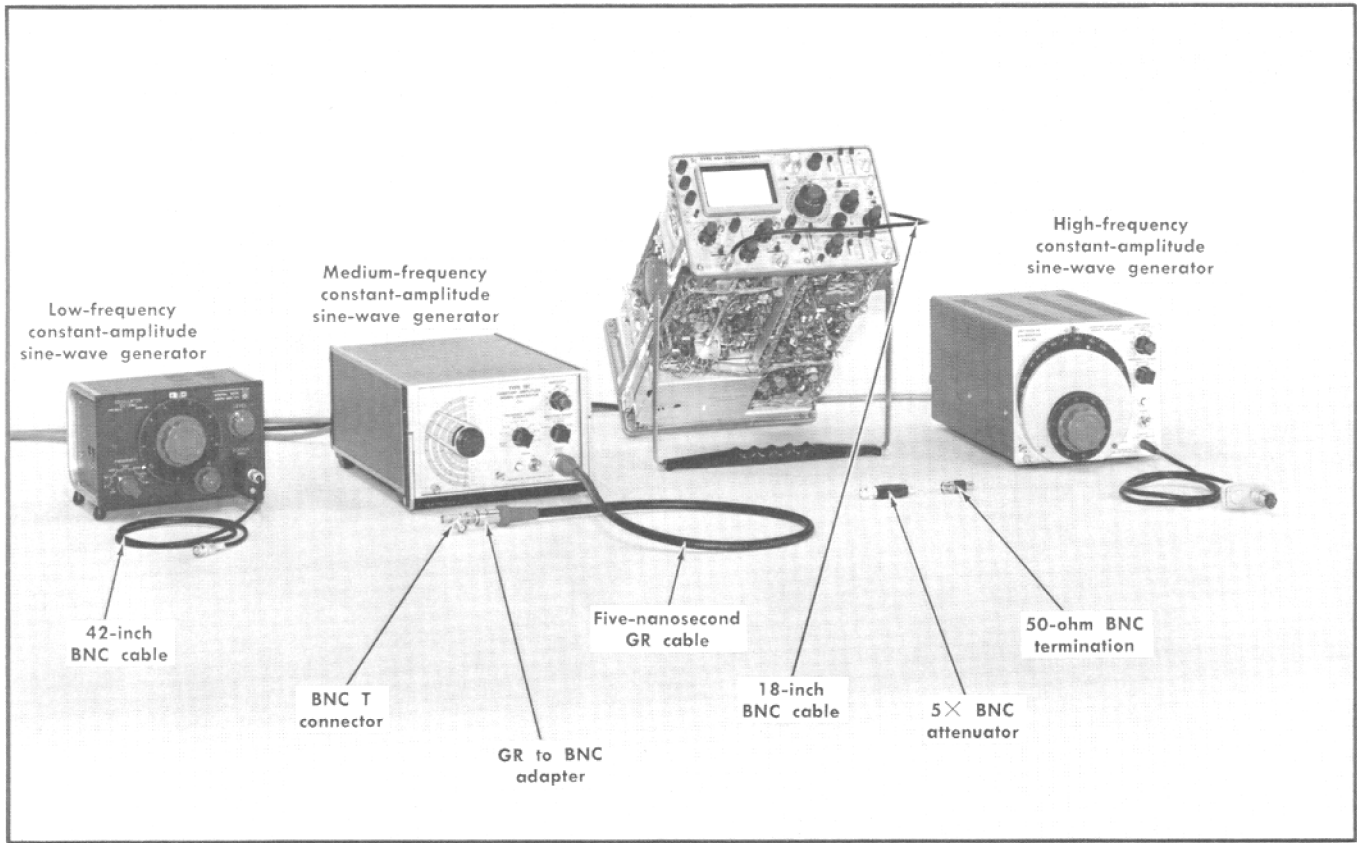

Fig. 6-33. Initial test equipment setup for steps 39 through 50.
- 39. Adjust CH 1 OUT DC Level** ❶
- a. Test equipment setup is shown in Fig. 6-33.